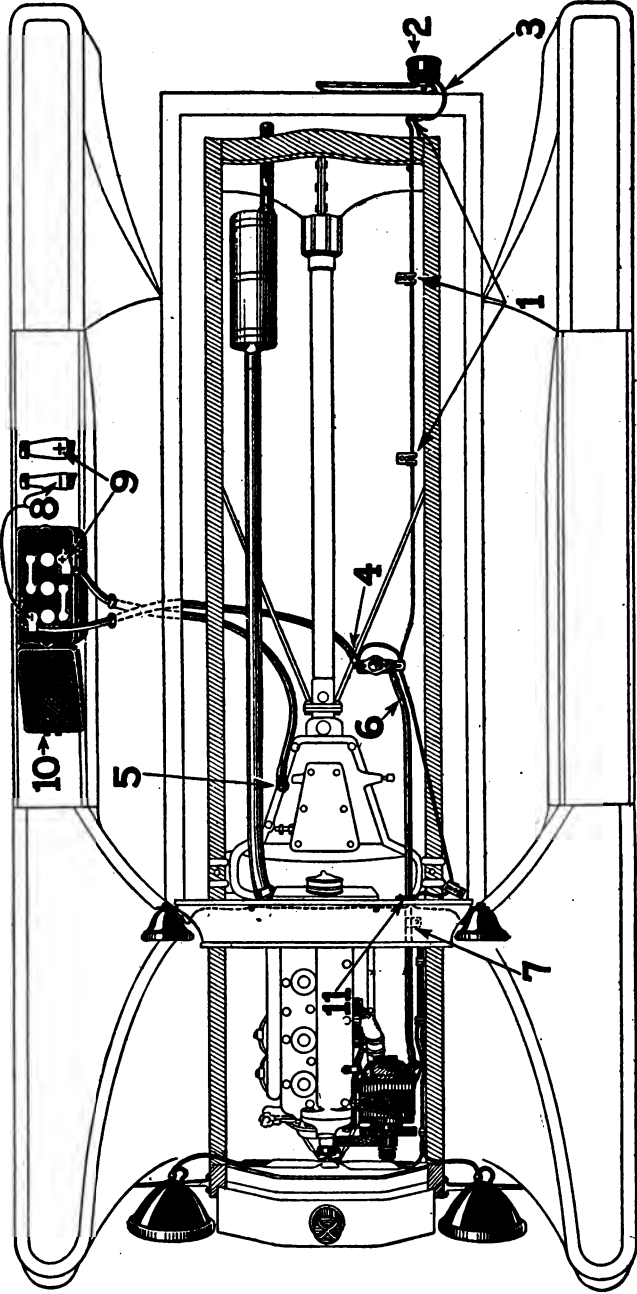
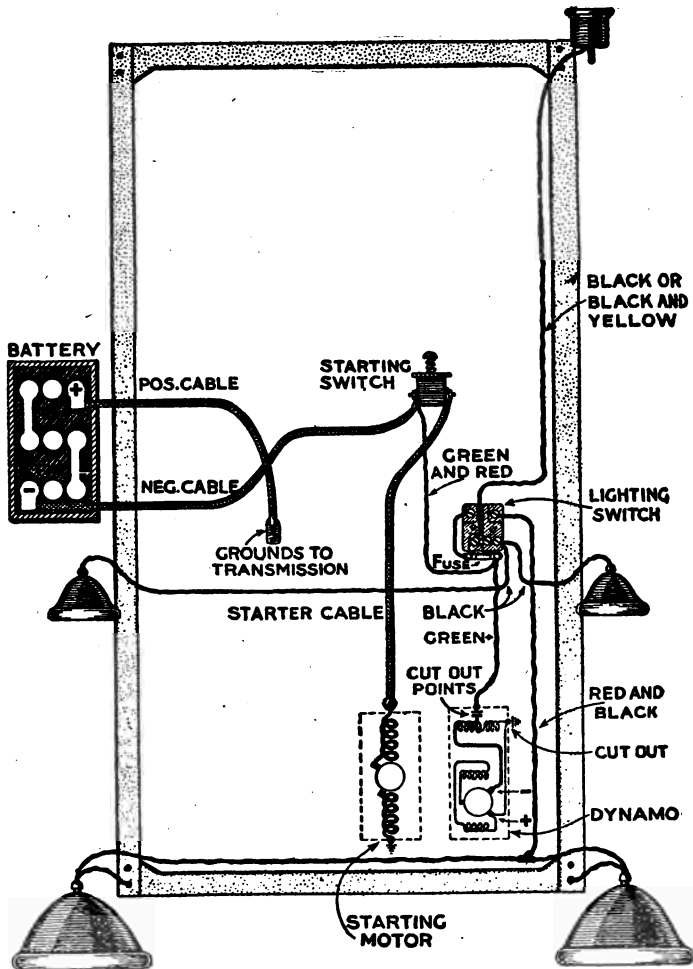

Fig. 378. Plan View of Complete Wiring System for Gray & Davis Ford Installation
Fig. 379. View of Complete Wiring System Simplified
*Final Connections and Adjustments.* Fig. 378 is a plan view of the chassis, showing the entire system in place. Figs. 379 and 380 show the wiring in plan and in perspective. Drill and attach to the woodwork on the underside of the body 1 three wire clips holding the